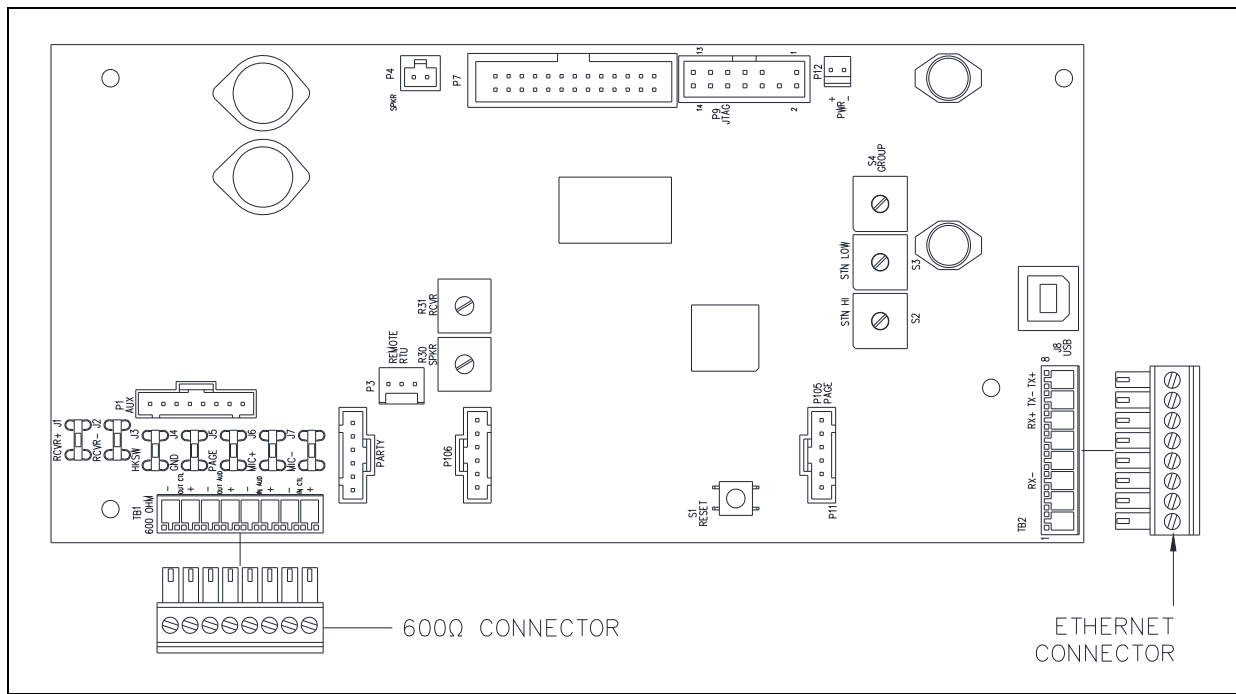

Figure 9. SP2 Main PCBA (Ethernet)
3. Connect the 600-ohm audio wires to the pluggable terminal block for the 600-ohm audio I/O connection (see Table 8 and Figure 9).
4. Connect the pluggable terminal block to the Main PCBA terminal block TB2 (see Figure 9).